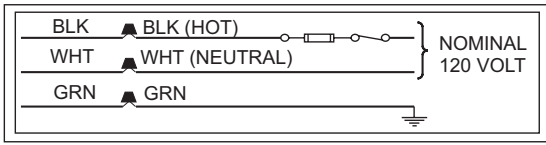

FIGURE 8: Line Wiring Connections
- The furnace's control system requires correct polarity of the power supply and a proper ground connection. Refer to Figure 8.